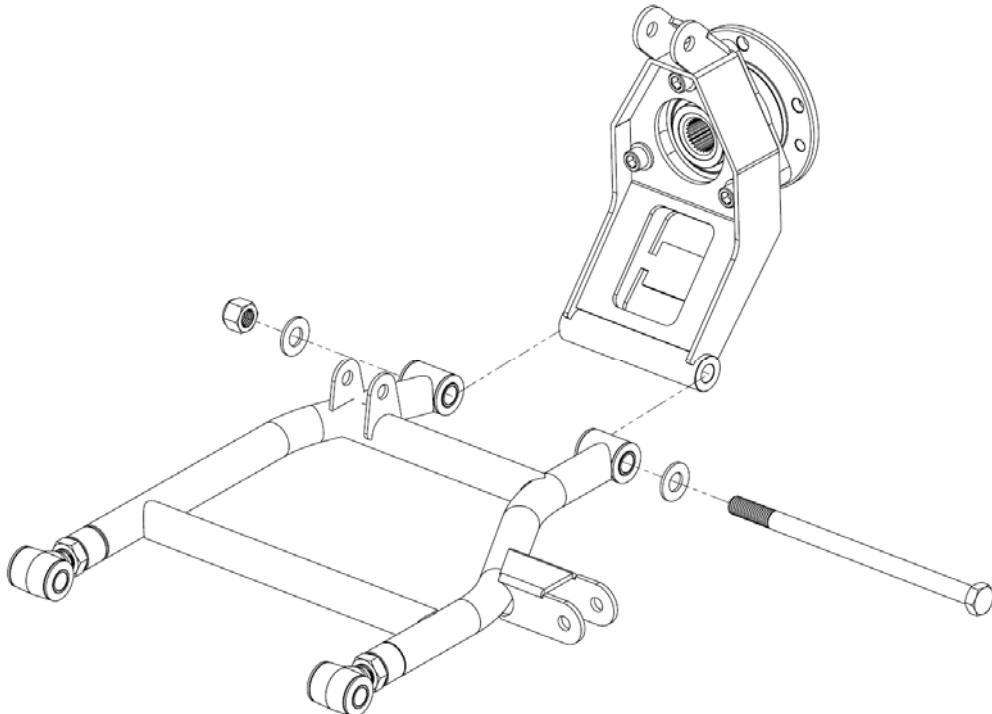

Figure 4. Assemble the upright to the lower arm using the 5/8 X 10-1/2" bolt and hardware.
- 6) Assemble the uprights to the lower control arms using the supplied 5/8" X 10 $\frac{1}{2}$ " long bolts. A washer should be used on the outside of the bushings as shown in Figure 4.